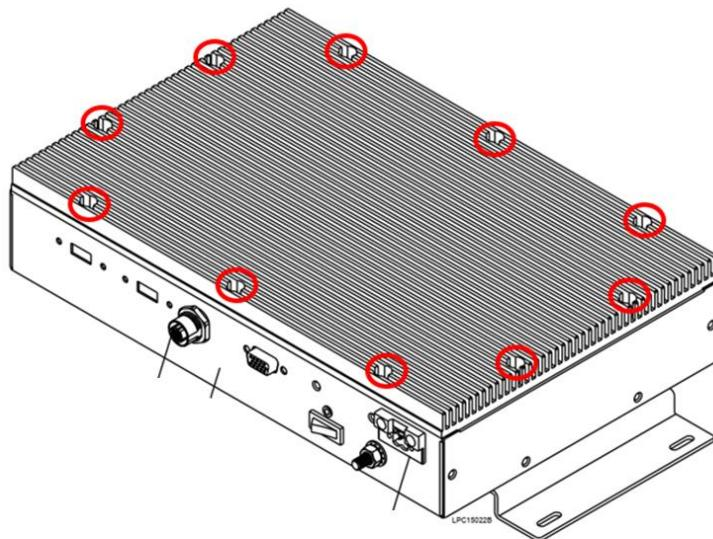

Figure 6-3: PIDS Controller Heat Sink Screws
- b. Remove the ten (10) screws that secure the heat sink to the controller. See Figure 6-3.